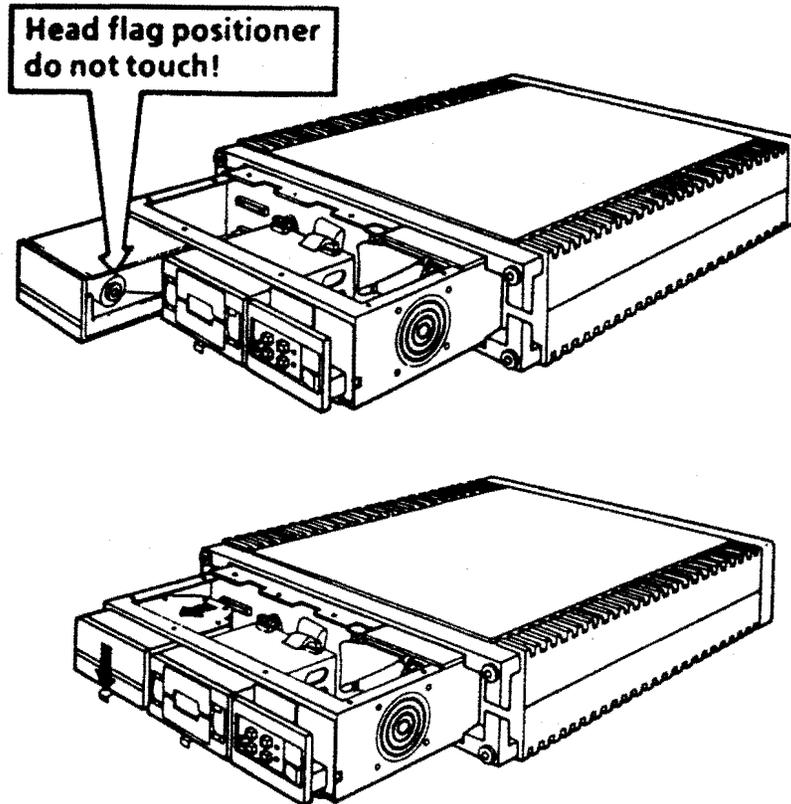

Figure 4-11: RD52 Cable Access
When handling the drive, do not hold the front, right-hand side of the drive; doing so will cause the head positioner flag to rotate (Figure 4-11).
1. Push down the release tab, and slide the drive forward to access the cables at the rear of the drive (Figure 4-11).
3. Remove the drive from the chassis by sliding it forward. Observe the previous head positioner flag caution (Figure 4-11).